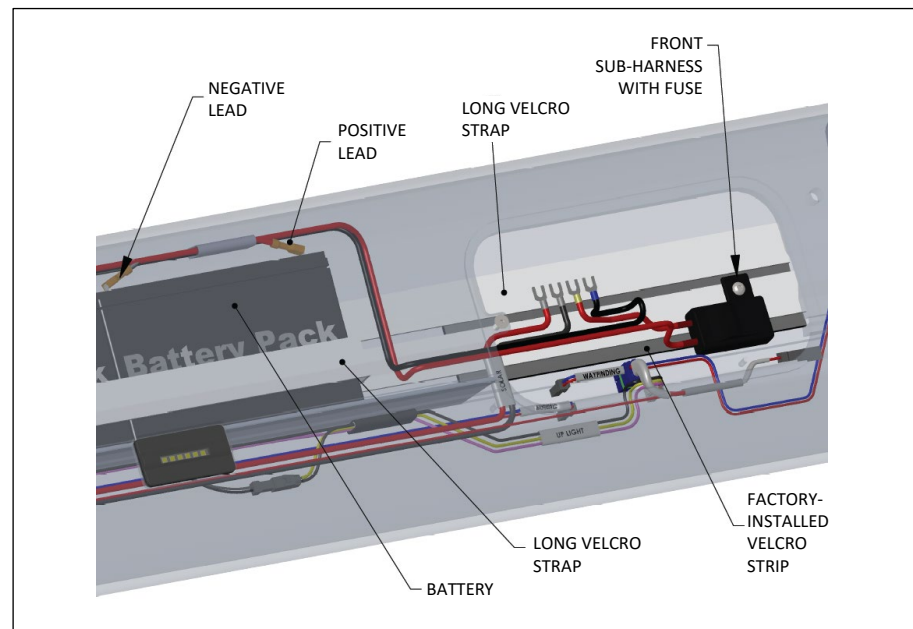
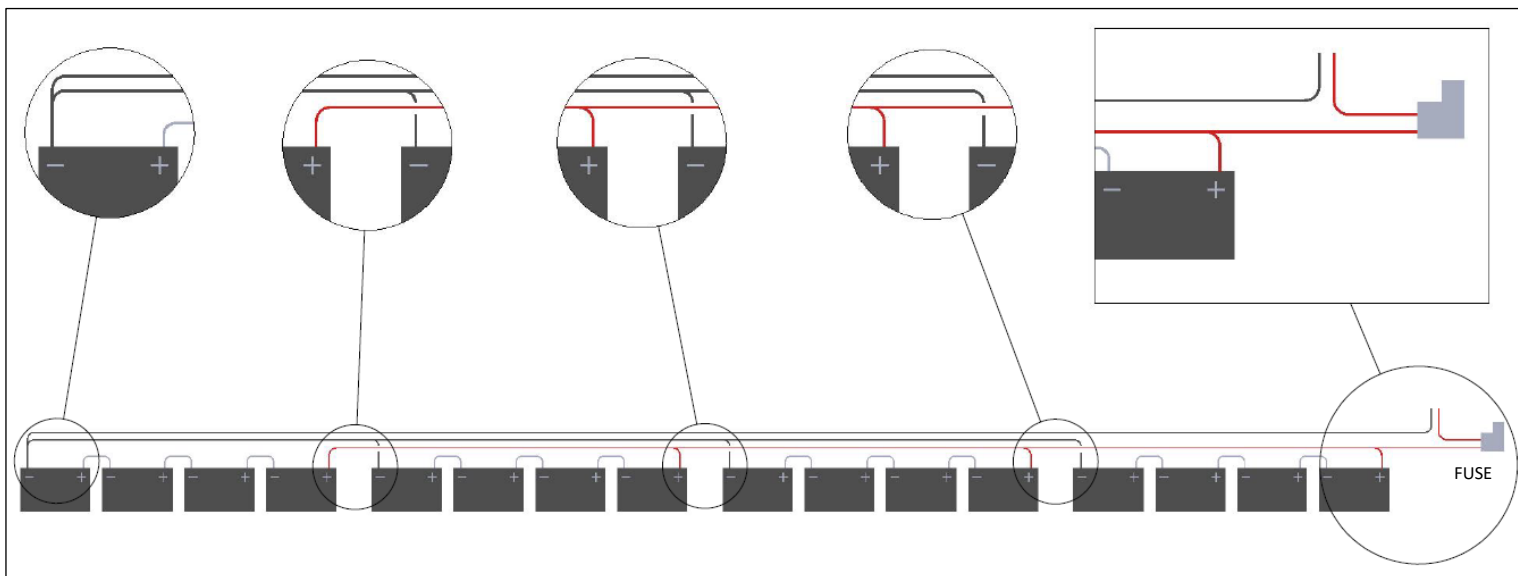

Fig. F3 – battery install in front horizontal
Fig. F4 – battery connection diagram for 12ft shelter
1. Remove access cover in horizontal beam near front right post. Ensure Velcro strip is installed on front horizontal beam. Secure one end of long Velcro harness to the top half of the strip mounted in the horizontal beam. Connect (-) lead of the battery harness to the first battery (-). Install short jumper harness to the positive pole of the battery as shown in Fig. 2F. Attach the other end of the jumper harness to the second battery. Install the second battery. Repeat this process for batteries 3 and 4, with the 4th battery hooking up to the main wire harness (+) connector. Repeat this process for the remaining batteries. See Fig. F4 for wiring reference. Slide each battery into Velcro harness as it is being installed. Once all batteries are installed, twist Velcro strap and secure it to the bottom of the mating Velcro strip in the horizontal beam, see Fig. F3.